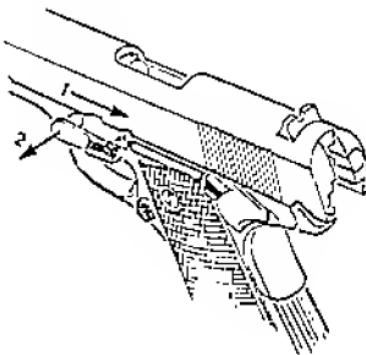

FIGURE 7- REMOVING SLIDE STOP
5. Pull slide to rear until lug on slide stop is opposite disassembly notch (See Figure 7) and push rounded end of pin of slide stop (on right side of receiver) inward and through receiver to disengage slide stop from slide.
6. Lift out slide stop. (See Figure 7).